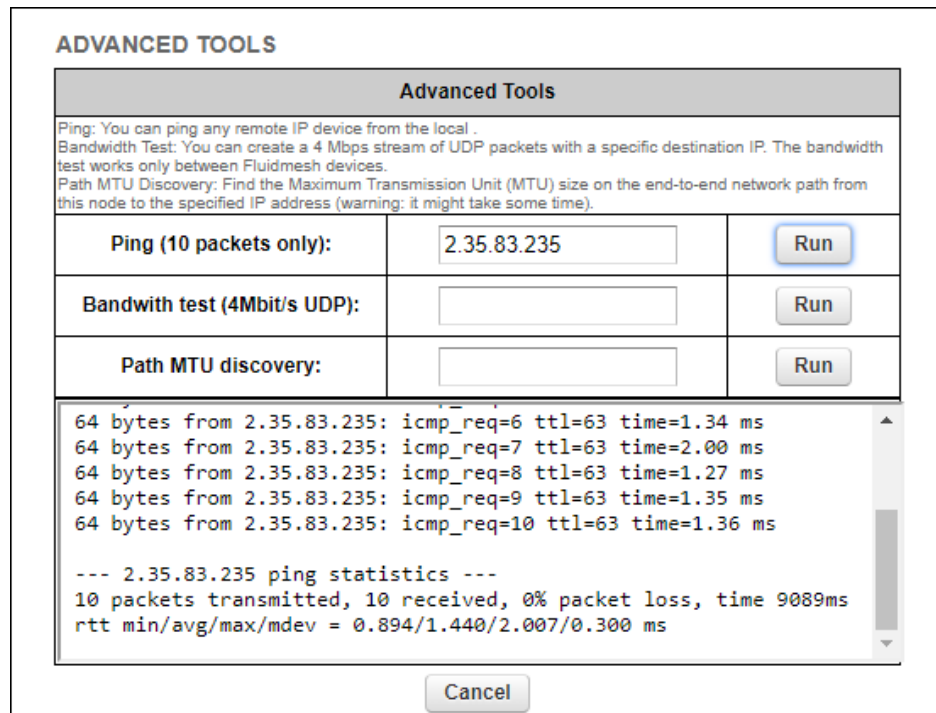

Figure 28. Advanced Tools window (Ping test tool)
2. Enter the IP address of the other unit in the **Ping (10 packets only)** field (Figure 28 (page 89)).